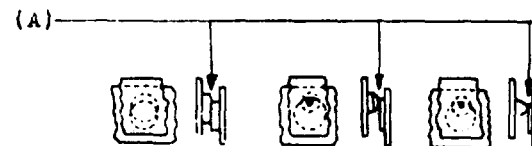

Fig. 2 - Contact Alignment
2.04 Contact Alignment - Fig. 2 (A): With the end play of the armature taken up in both directions, the point of contact shall fall wholly within the circumference of the opposing contact disc except for opposing contacts having the same diameter, in